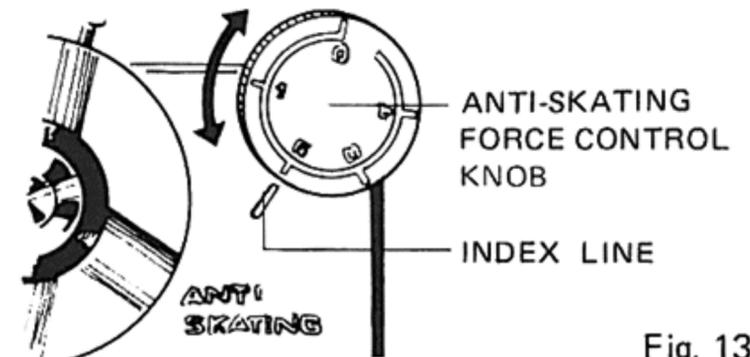

Fig. 13
1. Set the anti-skating force control knob to "0" (Fig. 13).
The anti-skating force control knob should be adjusted to the same setting as that required for the tracking force (Fig. 13).